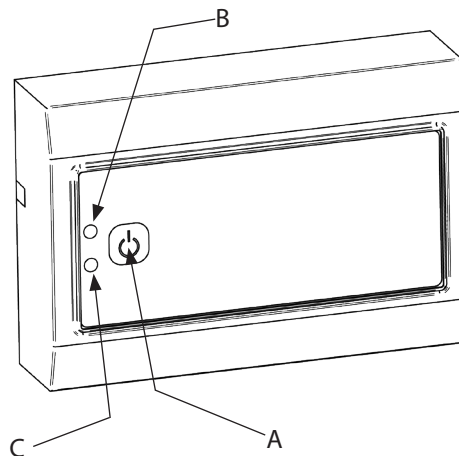

Fig.10
- Press the ON/OFF button (Fig. 10-A).
- The operating LED (Fig. 10-B) will flash GREEN until the correct chimney draught is confirmed. If it flashes YELLOW, then the Air inlet must be opened. The operating LED will then become GREEN and the fireplace can be lit.
### Operating LED (Fig. 10-B)
### Alarm LED (Fig. 10-C)
If the alarm LED (Fig. 10-C) activates during operation, press the ON/OFF button twice to stop the fan and restart the controller. If the alarm LED remains on after reset, please refer to the "Troubleshooting" section.
Press the ON/OFF button (Fig. 10-A) for at least four seconds to increase the fan's operating speed. If the controller is switched off, the fan speed will be reset.